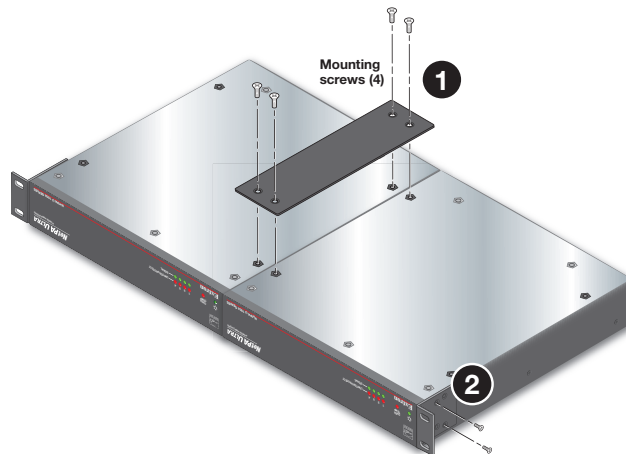

Figure 3. Installing NetPA Ultra Series Bridge Plate
3. Use the bridge plate connector and the four provided #4 machine screws to connect the two amplifiers together (see figure 3, ❶).
4. Attach the two short rack ears to the amplifiers with the four provided #6 machine screws (❷).